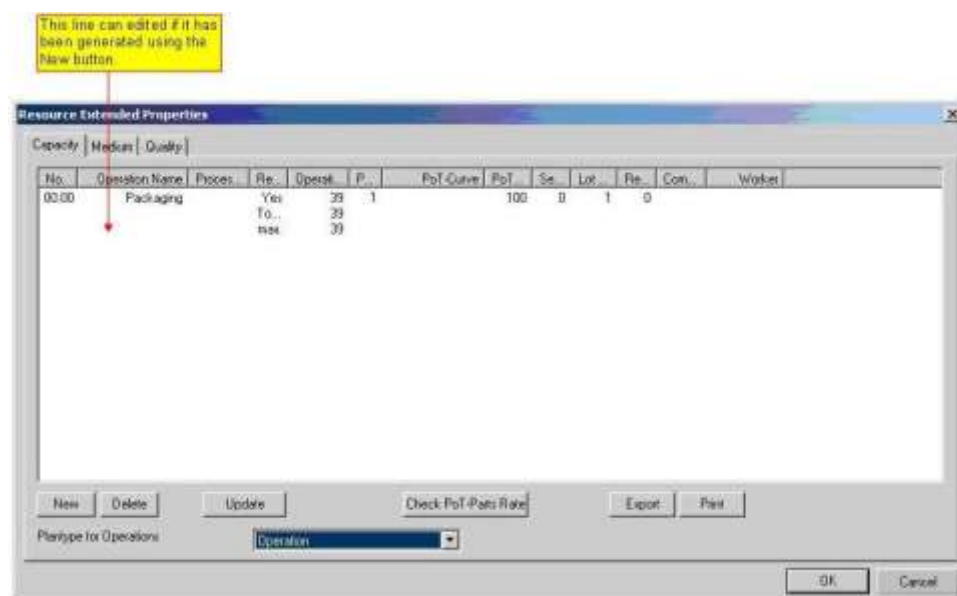

Figure 105: Value-Adding Resource – Capacity Tab
*The **Resource-Related Properties – Capacity** dialog allows you to delete only lines you have previously created in this location. In contrast to that, you may not delete a process that has been assigned by the PPR Navigator. After all, not all fields are to be edited. Such relations must be retained. Please refer to the Figure 105.*
- 1) Select the plantype for the operation. *Please refer to the Figure 105.*
For each worker, the **Extended Properties** provide capacity and quality tabs for editing purposes. For Capacity and Quality entries, *Please refer to the Figure 105 and Figure 108.*